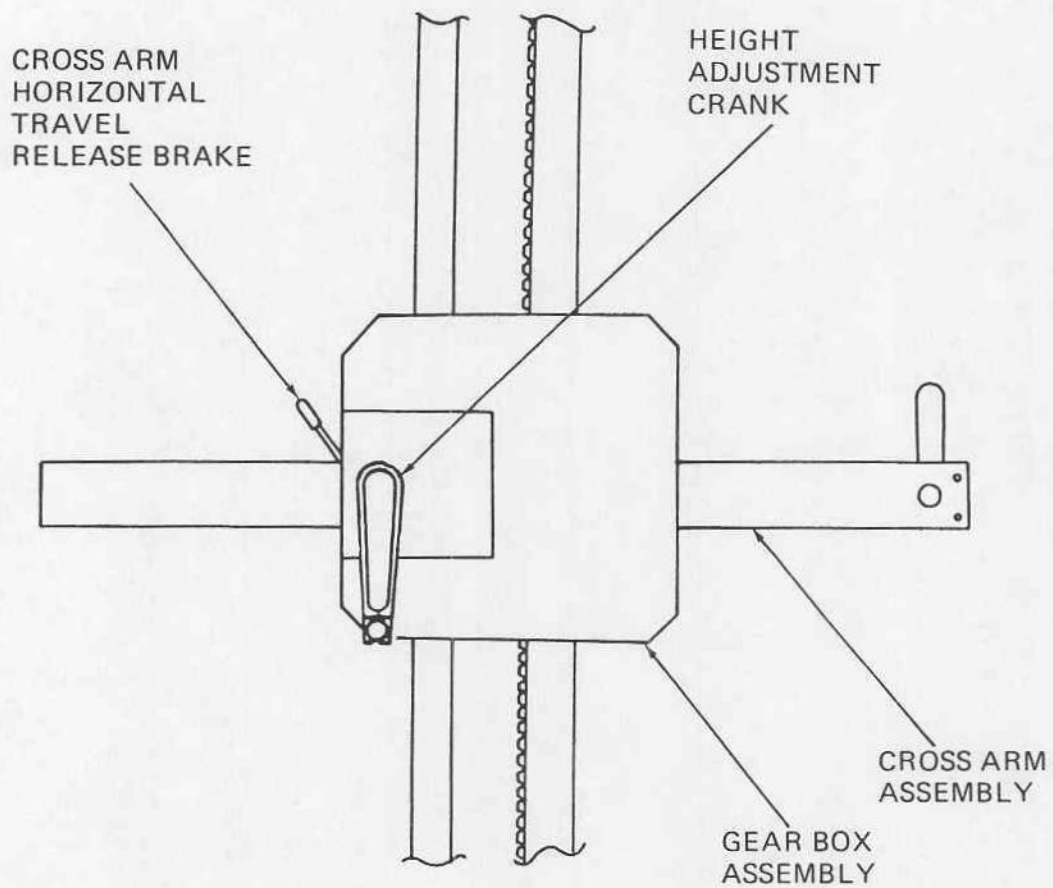
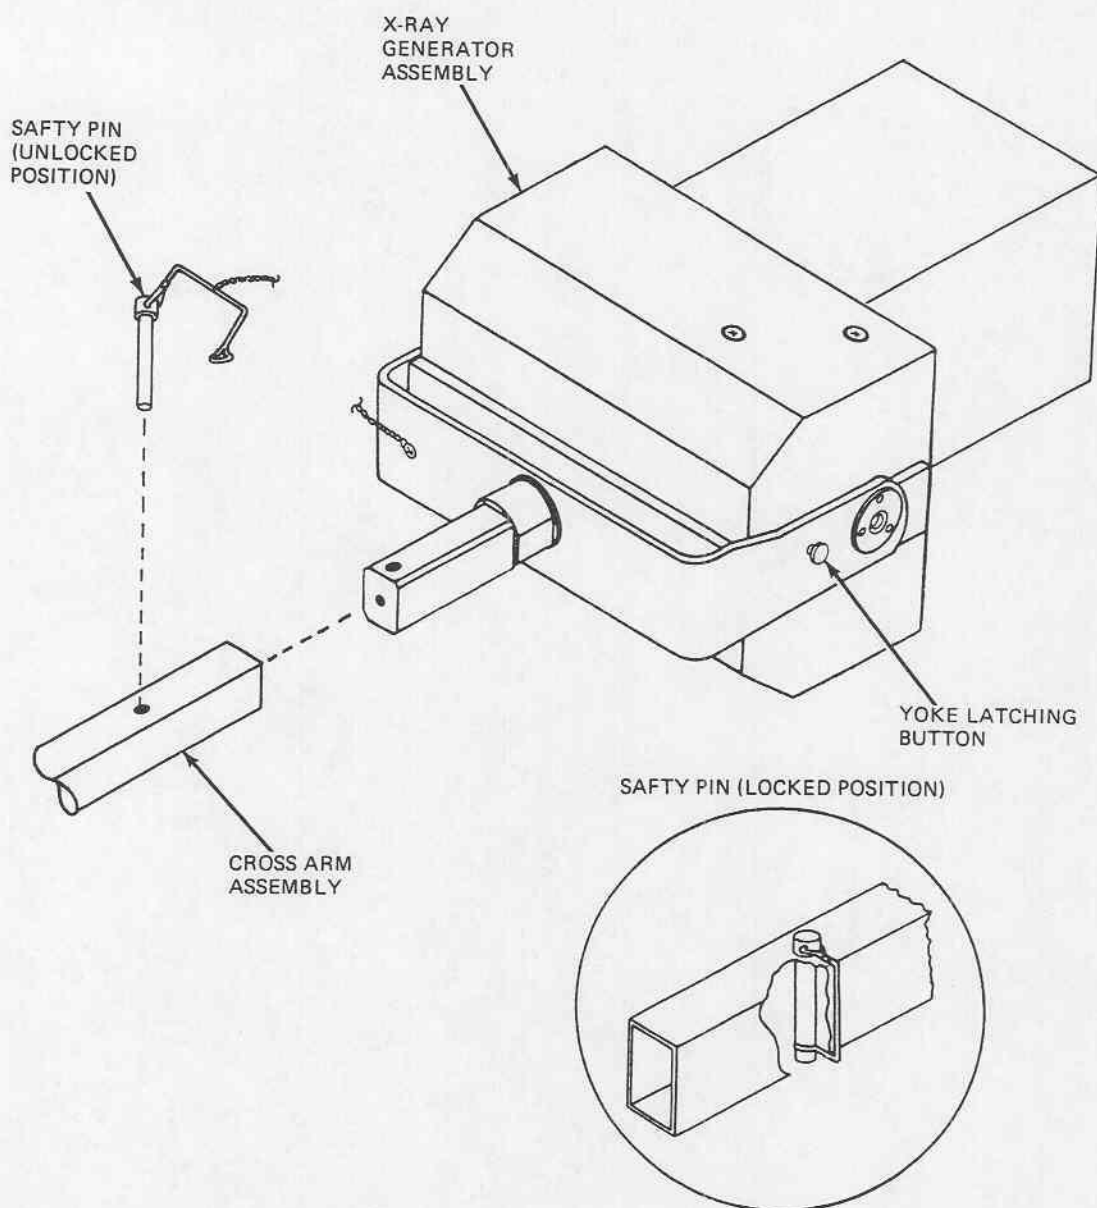

Figure 2-3. Gear Box Assembly (3A3) Cross Arm Horizontal Travel Release Brake Location
Figure 2-4. X-Ray Generator Assembly Installation
13. Press cross arm horizontal travel release brake and slide cross arm into gear box assembly (Figure 2-3).
14. Lift X-Ray generator assembly out of reuseable container, remove safety pin, position X-Ray generator yoke assembly into end of cross arm assembly, secure safety pin (Figure 2-4).
4. Verify that the X-Ray generator safety pin is installed and locked. (Figure 2-4).
3. Remove safety pin, lift and pull X-Ray generator assembly out of cross arm assembly, position X-Ray generator collimator assembly face down. Fit the face of the collimator into the stand corner brackets, and fit the yoke latching button into the yoke latching button bracket, secure safety pin (Figure 2-3 and Figure 2-4).
4. Press cross arm horizontal travel release brake and slide horizontal cross arm out of gear box assembly (Figure 2-4).